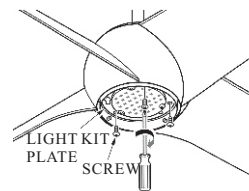

FIG. 20
5. Screw back the 3 previously removed screws and tighten the light kit.(See fig.20)